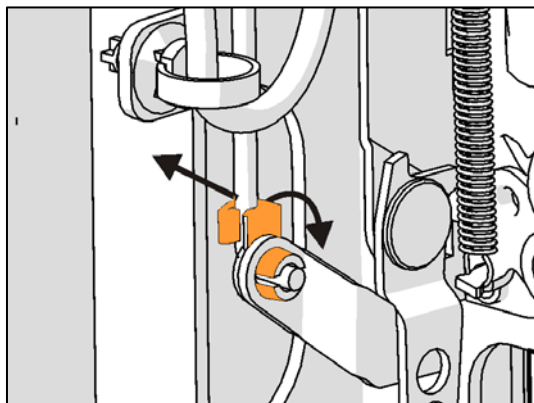

Figure 3: Control rod clip
3. Prepare latch for disassembly. (Figure 3)
6. Plug connector to door harness (A, Figure 3)
7. Secure cable with new cable ties. (B, Figure 3)